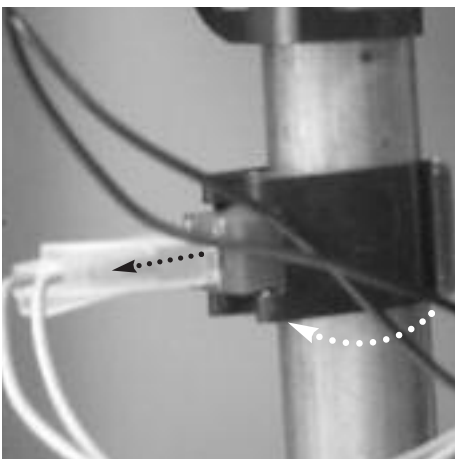

Fig. 99
2. Remove the clip securing the valve (see Fig. 99) and pull it toward you;
2. Pull off the thermostat connections. Then remove the thermostat from the pipe by releasing its securing clip (see Fig. 99).